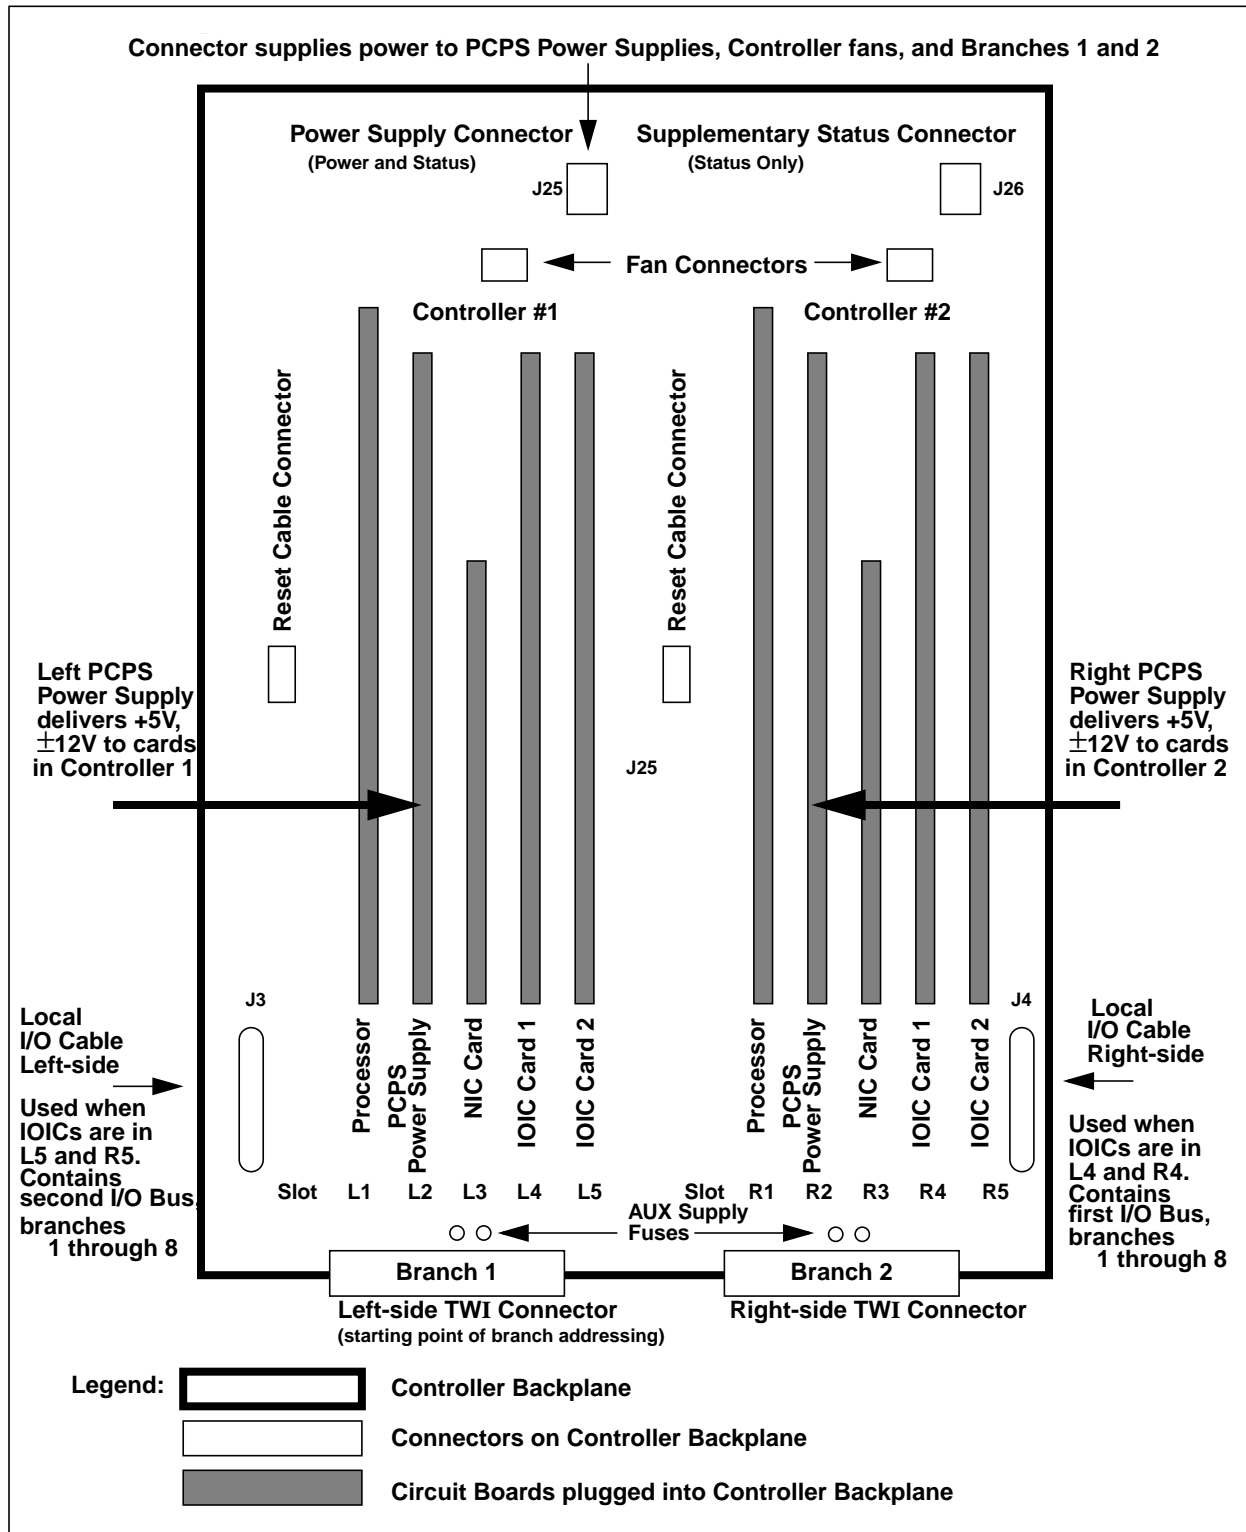

Figure 27-2. Controller Backplane (CBO)
- Redundant Controller Chassis - This rack in the Controller cabinet provides the backplane for two separate Controllers (refer to Figure 27-2). For each Controller, the backplane interconnects the following components: